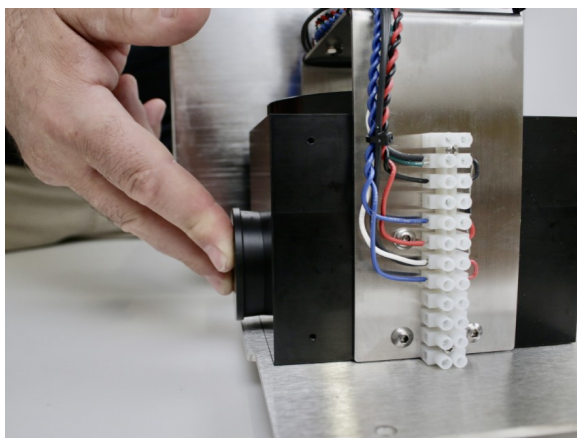

Figure 3.2.6
- Insert bushings into knife block and squeeze bushing together to sandwich blade between the bushings. **Figure 3.2.6**